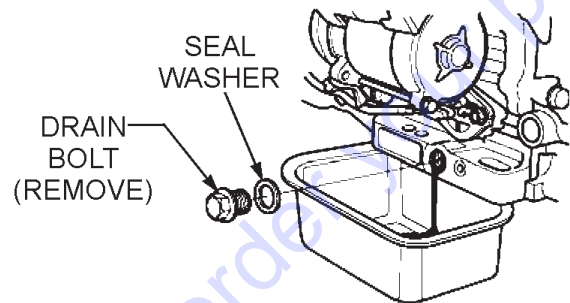

**Figure 29. Cleaning Foam Element**
8. Clean the foam air filter (Figure 29) element in warm soapy water, rinse and allow to dry thoroughly or clean with a nonflammable solvent and allow to dry. **DO NOT** pour any type of oil into the foam element.